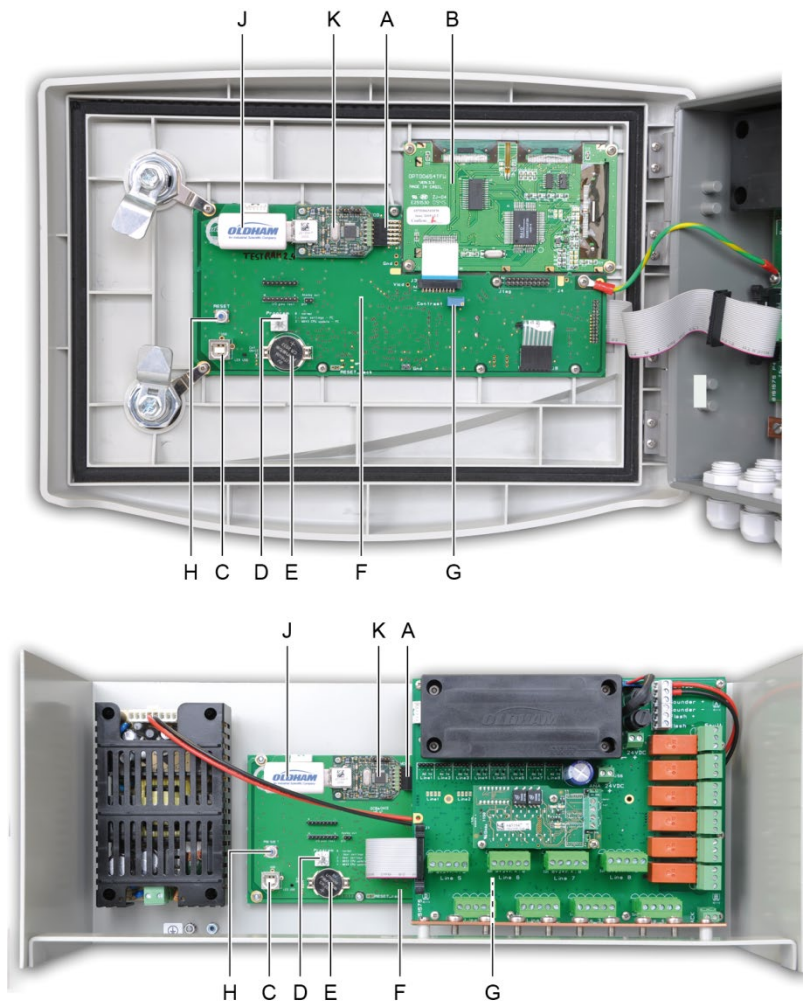

Figure 10: internal view, wall-mounted and rack-mounted versions – microprocessor cards and display.
A copy of the MX 43 configuration is automatically saved on the USB key (Figure 10, ref. A) when it is plugged in. The configuration file contains all of the input needed to completely
- Set the programming selector (Figure 10, ref. D) to **2**.
- Press the *Reset* button (Figure 10, ref. H).